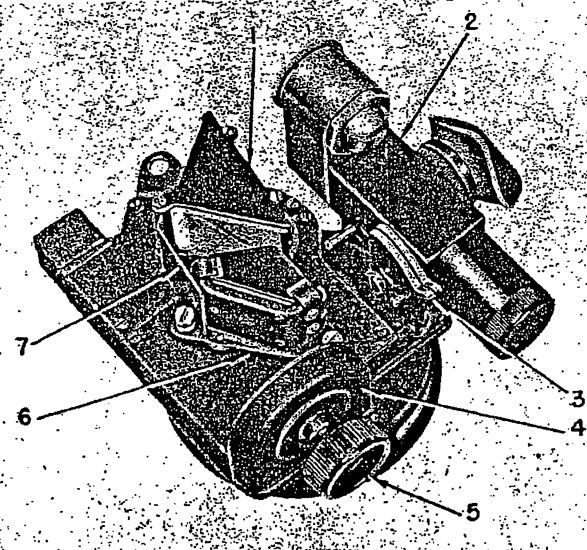

Figure 4—Prisms
KEY TO FIGURE 4
f. DRIVE ASSEMBLY.—The drive assembly (4, figure 4) contains the manual control knob (5), the rotation of which operates the synchronized mechanisms. A stopping feature is incorporated in the drive assembly which limits the rotation of the control knob to the number of turns necessary to cover the range of the instrument.
l. FIELD PRISM ASSEMBLY.—The field prism assembly (1, figure 4) is supported by the sector assembly and revolves through an arc of 45 degrees, deflecting the line of sight 90 degrees. It receives the rays of light from the celestial body and transmits them to the fixed prism.
m. SHADE.—A shade (7, figure 4) is loosely mounted on one of the prism mounting screws, so that it may easily travel with the field prism. The shade covers the area between the field prism and the fixed prism (6) to eliminate the possibility of ghost images.
n. FIXED PRISM ASSEMBLY.—The fixed prism assembly (6, figure 4) supports the fixed prism which receives the rays of light from the field prism, and transmits them to the glass chamber housing assembly. The position of the fixed prism in the fixed prism assembly is adjustable for collimation purposes.
o. GLASS CHAMBER HOUSING ASSEMBLY.—The glass chamber housing assembly (2, figure 4) supports the bubble chamber assembly, the filter assemblies, the reflector, the objective lens assembly, and the eyeguard assembly. The image of the bubble is projected into the line of sight by the reflection of the bubble onto the reflector through the silvered glass chamber lens of the objective lens assembly.
p. FILTER ASSEMBLIES.—The filter assemblies (3, figure 4) which are attached to the glass chamber housing (2), comprise two filters of different intensities which are brought into position between the fixed prism and glass chamber housing when making day observations.